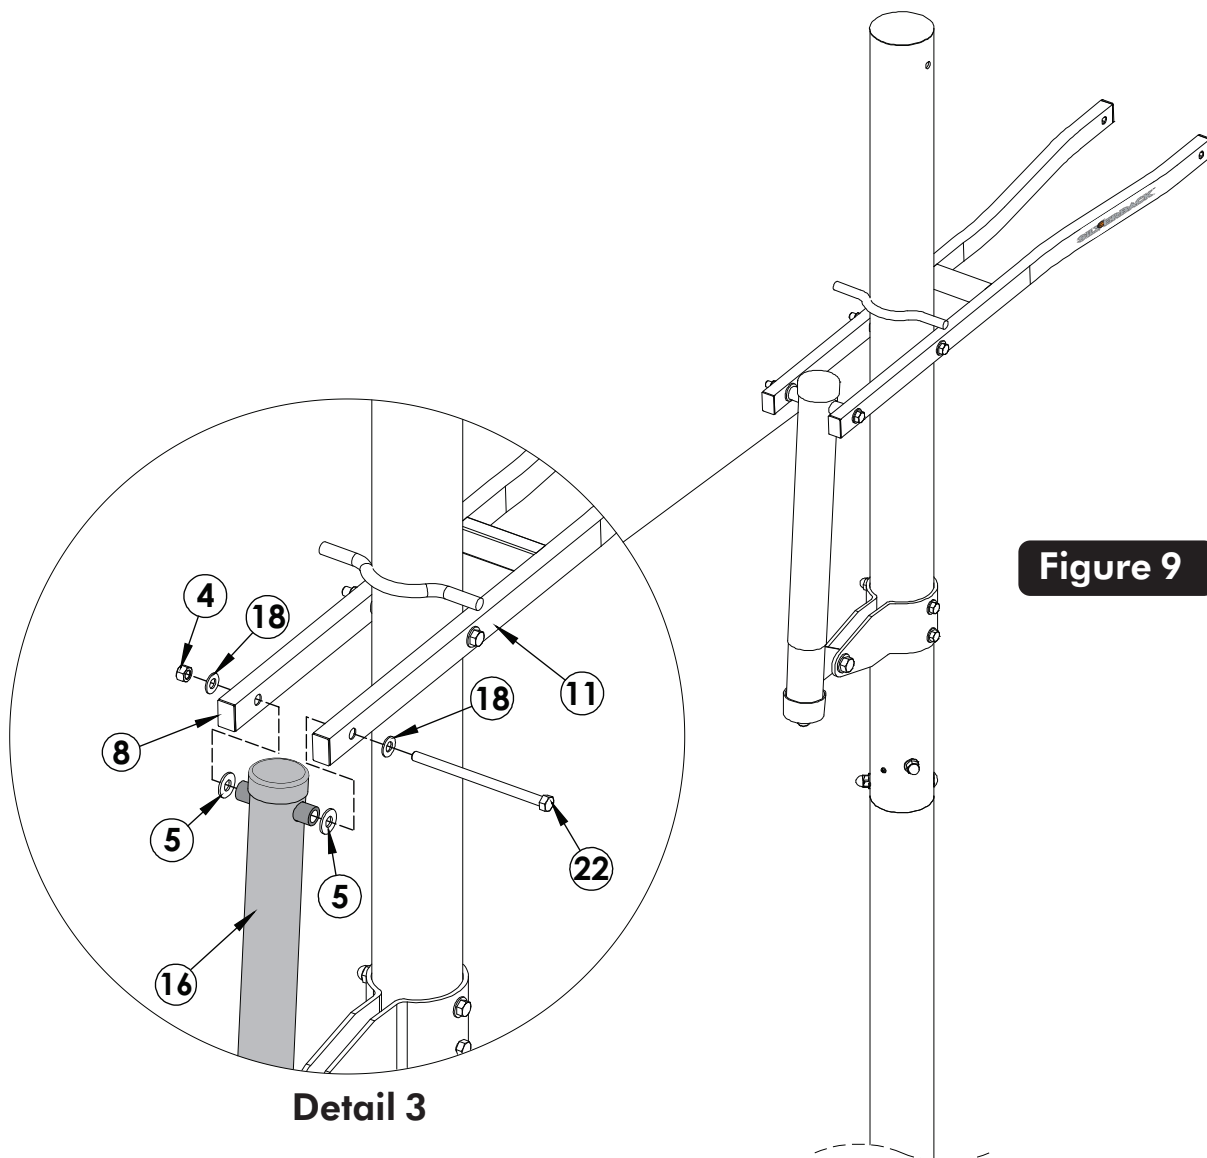

Figure 9
18. Secure actuator (#16) to lower arms (#11) using one bolt (#22), two flat washers (#18), two plastic washers (#5) and one lock nut (#4). See **Figure 9** and **Detail 3**. Tighten both bolts (#22) at this time to secure lower arm (#11).